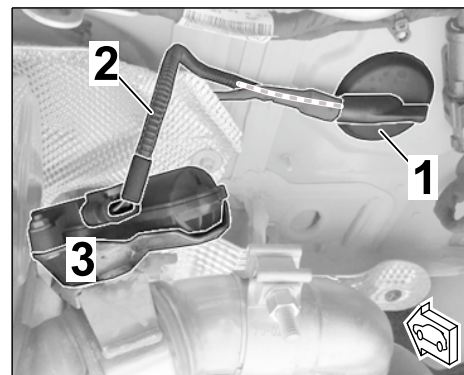

Figure 35
3.3.4 **ONLY** if a grommet with several lines is installed on the underside (including an exhaust flap branch (left/right of the standard rear silencer ⇒ *Figure 35*):